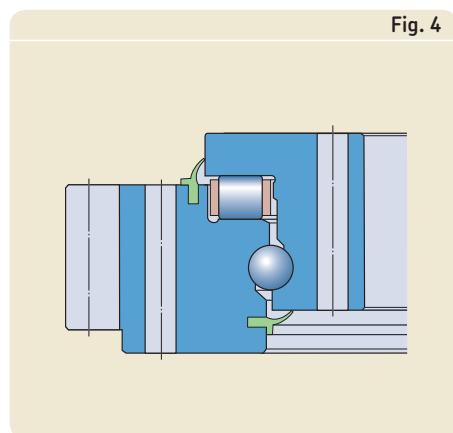

Fig. 4
- with an external gear (→ fig. 4)